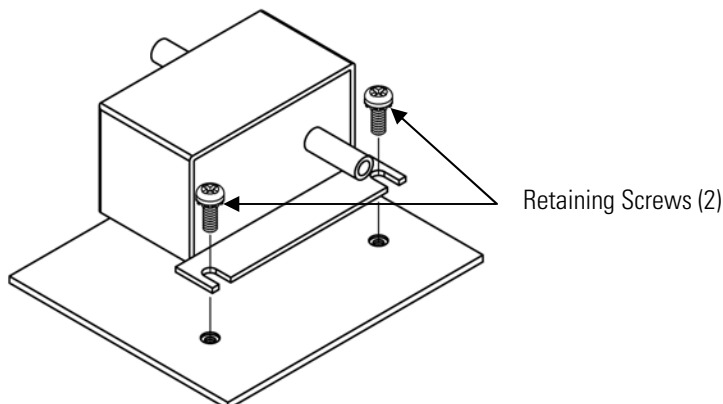

Figure 7–17. Replacing the Flow Transducer
Use the following procedure to replace the flow transducer (Figure 7–17).
2. Disconnect flow transducer cable from the FLOW connector on the measurement interface board (Figure 7–2).
4. Remove the two retaining screws holding the flow transducer to the floor plate and remove the flow transducer (Figure 7–17).